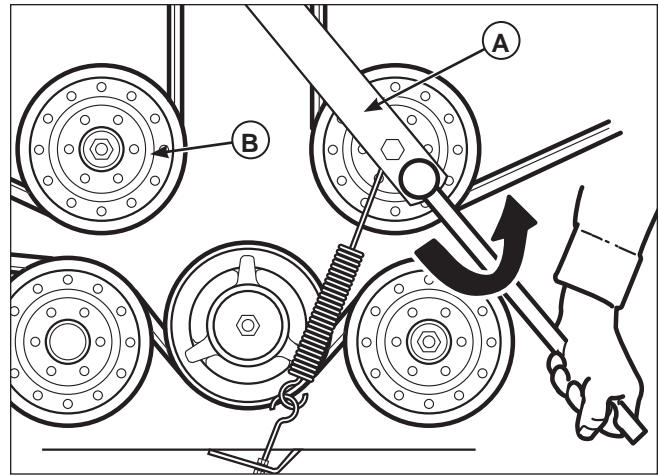

Figure 54. Mower PTO Belt (61" Mower Deck)
2. **For 61" deck:** Using a 1/2" breaker bar, place the square end in the square hole located in the end of the idler arm (A, Figure 54). Carefully rotate the breaker bar COUNTER-CLOCKWISE, which will relieve the tension on the belt exerted from the idler arm.
5. **For 61" deck:** Install the drive belt on the PTO pulley, the spindle pulleys and all idler pulleys except the stationary pulley (B, Figure 54). Carefully rotate the breaker bar COUNTER-CLOCKWISE and install the belt on the stationary idler pulley (B). Carefully release the tension on the breaker bar.